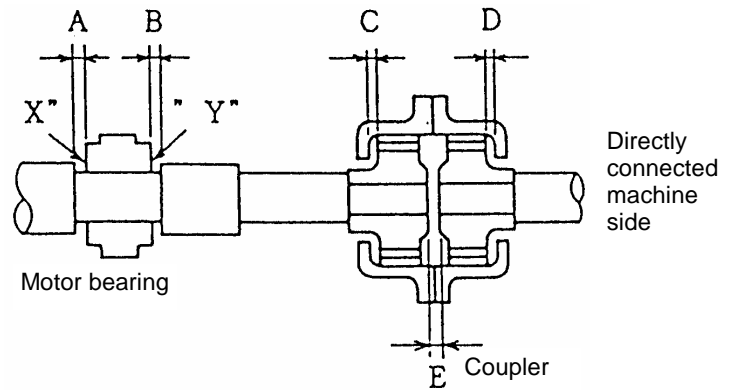

Figure 4 Relationship Between Coupler and End Play
- ① When the motor is at rest, there is no torque transmission, so the joint will act freely and the motor end play may reach zero. In such cases, when the motor is started up again, the joint will be fixed in that position and the sides of the motor bearing will experience metal contacting.
- ② When there is thrust in the shaft direction during motor operation, the same phenomenon will occur as above.
- ③ In **figure 4**, if $A < E$, contacting will occur at surface X on the bearing; when $B < C + D$, contacting will occur at surface Y on the bearing.
- ④ Measure the iron core gap on both the direct-coupled side and the opposite side, either at four locations (up, down, left and right) or at three locations (up, left and right). Check to make sure that the average of the maximum and minimum gap values is no greater than 20%.